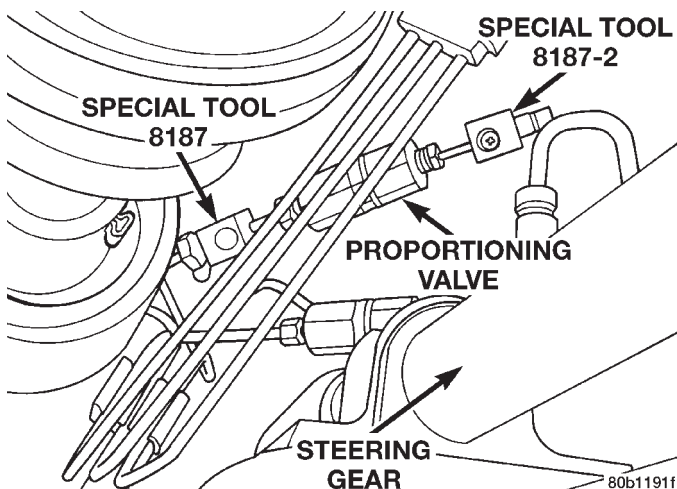

Fig. 20 Proportioning Valve With Pressure Test Fittings Installed
(5) Install the proportioning valve with the pressure test fittings installed, in the chassis brake tube (Fig. 20). Tighten both tube nuts to a torque of 17 N·m (145 in. lbs.).